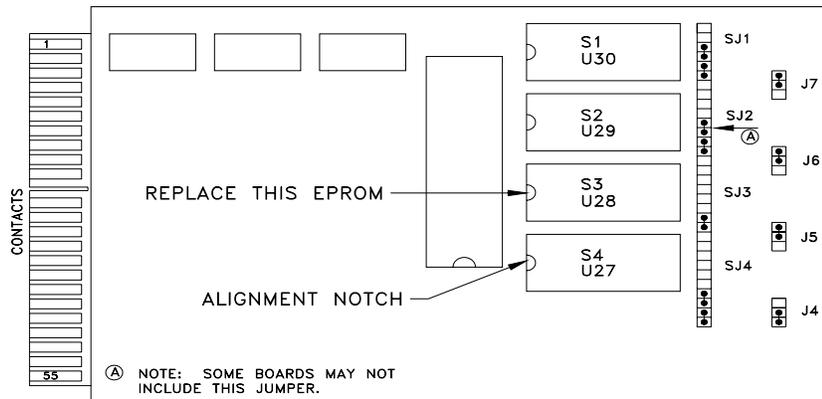

Figure 6. Top of 1822 CPU card showing the positions and orientation of the EPROMs
10. Figure 6 shows the top of the CPU board and the EPROM sockets, which are labeled S1–S4 or U30–U27, depending on the revision. Locate socket S3 (or U28) and the EPROM that is labeled HW Config. (Contact Customer Service at Quantum Design if this EPROM is not in socket S3 or U28.)
2. Carefully insert the new EPROM into the empty S3 (or U28) socket on the CPU board, with the alignment notch in the position shown in Figure 6, by placing the chip over the socket and aligning the pins with the socket holes. When the pins are in place, gently press down on the top surface of the chip. Press the chip into the socket until it is fully seated.
3. Verify that the alignment notch on the new chip is oriented correctly—the notch should point to the side of the CPU board that has the contacts (see Figure 6).